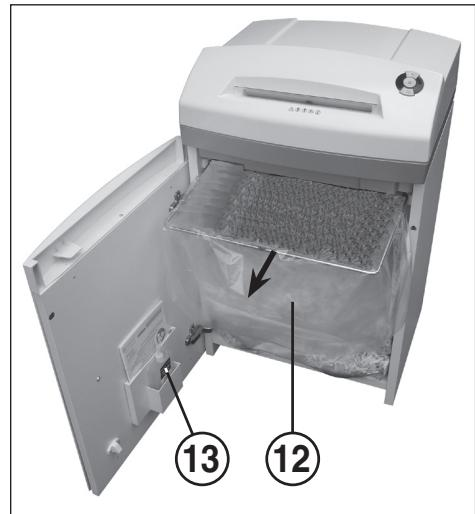

fig. 4
12 = Paper collection bag (Fig. 4)
13 = Oil reservoir (Fig. 4)
EMPTYING THE PAPER COLLECTION BAG (Fig. 4):
Open the door. The control display  (8) comes on and the reverse button (4) LED display  as well as the control display  (7) flashes. Remove the oil reservoir (13) (Fig. 4) from the holder in the door and close the door again.